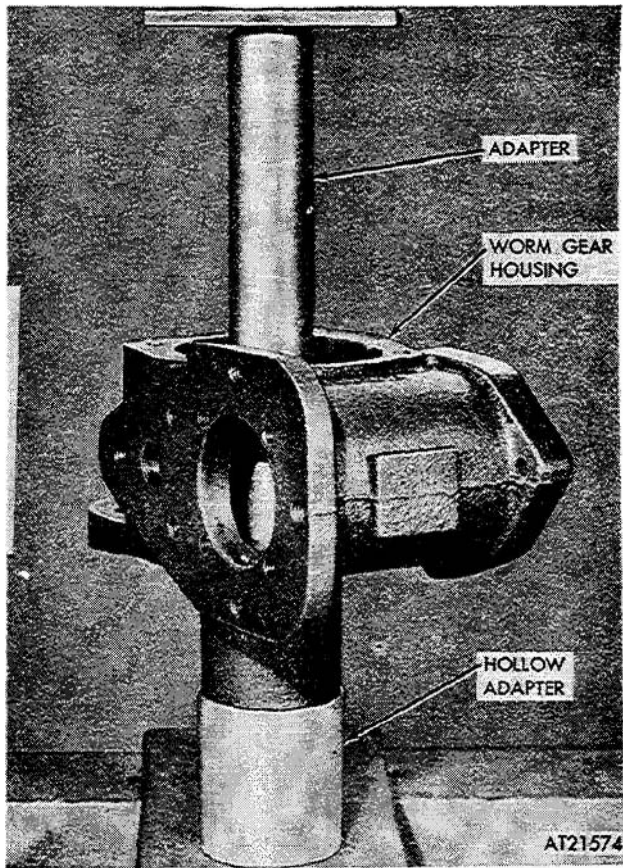

Figure 3-201. Pressing bushings from worm gear housing.
(10) Press bushings (19 fig 3-195) from housing (fig. 3-201).